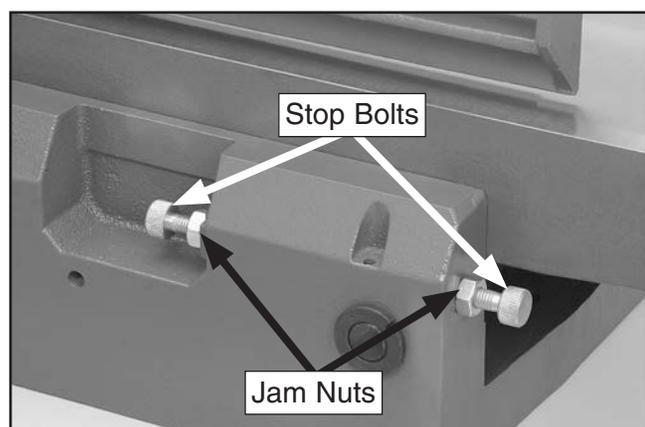

Figure 77. Outfeed table positive stop bolts.
4. Loosen outfeed table lock located at front of machine, and loosen jam nuts and positive stop bolts located at back of machine just behind outfeed table (see **Figure 77**).
8. Tighten outfeed table lock located at front of machine, and tighten outfeed positive stop bolts and jam nuts located at back of machine (see **Figure 77**) so that outfeed table will not move during operation.